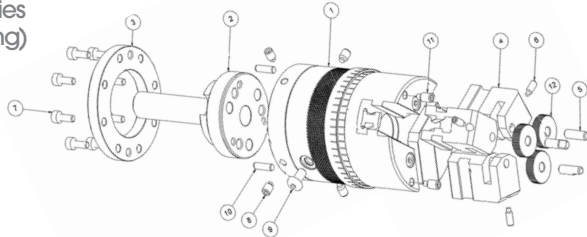
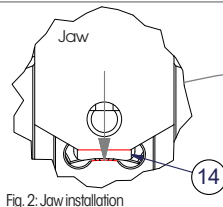
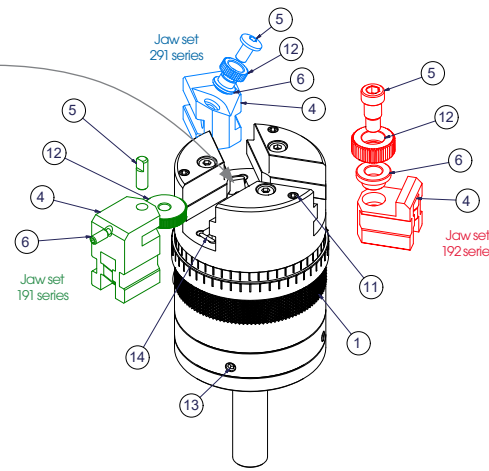

Fig. 1: Series 191 exploded drawing
Fig. 2: Jaw installation
Fig. 3: General view + jaw variants
Please specify the tool number and the corresponding position number (see Fig. 1).
Various jaws are pre-assembled depending on the tool type. Conversion between the milling machining process (291 series), forming (191 series) and forming up to a shoulder (192 series) can take place by using different jaw sets. These variants are shown in Figure 3.
If the jaw sets must be replaced, first remove the stop screw completely (Fig. 1, Pos. 9) and loosen the three threaded pins (Fig. 3, Pos. 11). Then turn the threaded bush (Fig. 1 + 3, Pos. 1) counterclockwise (CCW) until the knurling jaws (Fig. 1 + 3, Pos. 4) can be removed individually from the guide slot.
Vertical positioning of the tool is recommended for easier installation (pull knurling jaws upward, Fig. 3). Now slide the jaws (Fig. 1 + 3, Pos. 4) into the guide slots until the front edge of the jaw is flush with the surface of the recess facing inward (Fig. 2). Then, turn the threaded bush clockwise (CW) until the guide slot of the spined bush (Fig. 2 + 3, Pos. 14) engages in the jaws and pulls them together evenly. Screw in the stop screw again (Fig. 1, Pos. 9).
Loosen the threaded pin (Fig. 1 + 3, Pos. 6) and remove the axle pin (Fig. 1 + 3, Pos. 5). Change the knurling wheel (Fig. 3, Pos. 12) and fix it with the axle pin in the groove.
Completely loosen the bearing screw (Fig. 3, Pos. 5) and remove the knurling wheels (Fig. 3, Pos. 12). Fit new knurling wheels on the bearing bush (Fig. 3, Pos. 6) and fix with the bearing screw (cf. Figure 3).
Completely loosen the Torx screw (Fig. 3, Pos. 5) and remove it with the knurling wheel (Fig. 3, Pos. 12) and the bearing bush (Fig. 3, Pos. 6). Then fit a new knurling wheel on the bearing bush and tighten screw it together with the jaw (Fig. 3, Pos. 4) with the torx screw (cf. Figure 3).
- Unscrew the fastening screw (Fig. 1, Pos. 9) and threaded pins (Fig. 1, Pos. 8; Fig. 3, Pos. 11)
- Unscrew the threaded bush (Fig. 1, Pos. 1; Fig. 3, Pos. 1) and move over the workpiece in the Z-direction
- Tighten the threaded (Fig. 1, Pos. 8) pins evenly
Setting of the profile depths takes place after the centring of the toolholder. This depends on the knurling process, profile and material to be carried out. For this purpose, loosen the fastening screw (Fig. 1, Pos. 9) and threaded pins (Fig. 1, Pos. 8) and turn the threaded bush (Fig. 1 + 3, Pos. 1) clockwise.
Then, firmly tighten the fastening screw (Fig. 1, Pos. 9) and threaded pins (Fig. 2, Pos. 8) for fixing the diameter (observe torque table, chapter 6).
Replace the bearing bush (Fig. 3, Pos. 6; 192/291 series), knurling wheel (Fig. 3, Pos. 12), bearing screw (Fig. 3, Pos. 5; 192 series) and torx screw (Fig. 3, Pos. 5; 291 series) and axle pin (Fig. 3, Pos. 5) after a reasonable number of cycles, no later than upon appearance of significant wear or deviating process parameters.